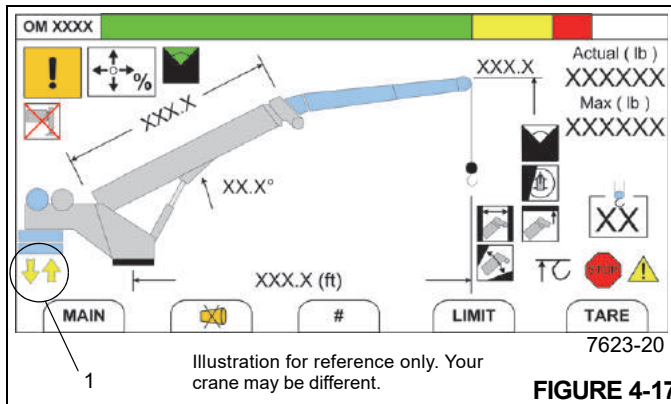

FIGURE 4-17
4. Set display in Operator's Console to the RCL Operating Mode Screen (Figure 4-17) (see *Section 7, Rated Capacity Limiter*).
The Counterweight Removal Slew Position Indicator (yellow arrows) (1, Figure 4-17) appears in the RCL display, which indicates the rear of the superstructure is nearly directly above the Removable Counterweight stowed on the carrier deck.
The Counterweight Removal Slew Position Indicator (yellow arrows) (1, Figure 4-17) appears in the RCL display, which indicates the rear of the superstructure is nearly directly above the counterweight stowage area on the carrier deck.